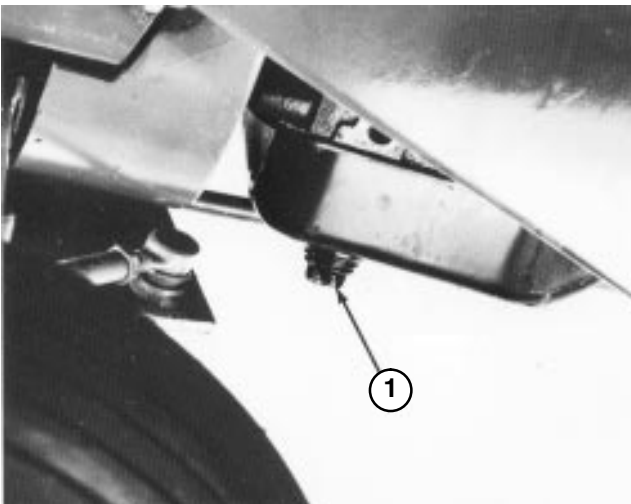

Figure 46
2. Disengage hood latch and open the hood. Set drain pan under the housing and in line with drain plug (Fig. 46).
3. Clean area around drain plug (Fig. 46).